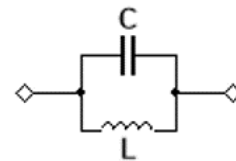

FIGURE 2. LC parallel combination.
**2.2. Resonant LC Circuits.** The impedance of an inductor and capacitor are both imaginary but have opposite signs:  $Z_L = j\omega L$  and  $Z_C = 1/j\omega C = -j/\omega C$ . The impedance of this parallel combination (Fig. 2) is given by